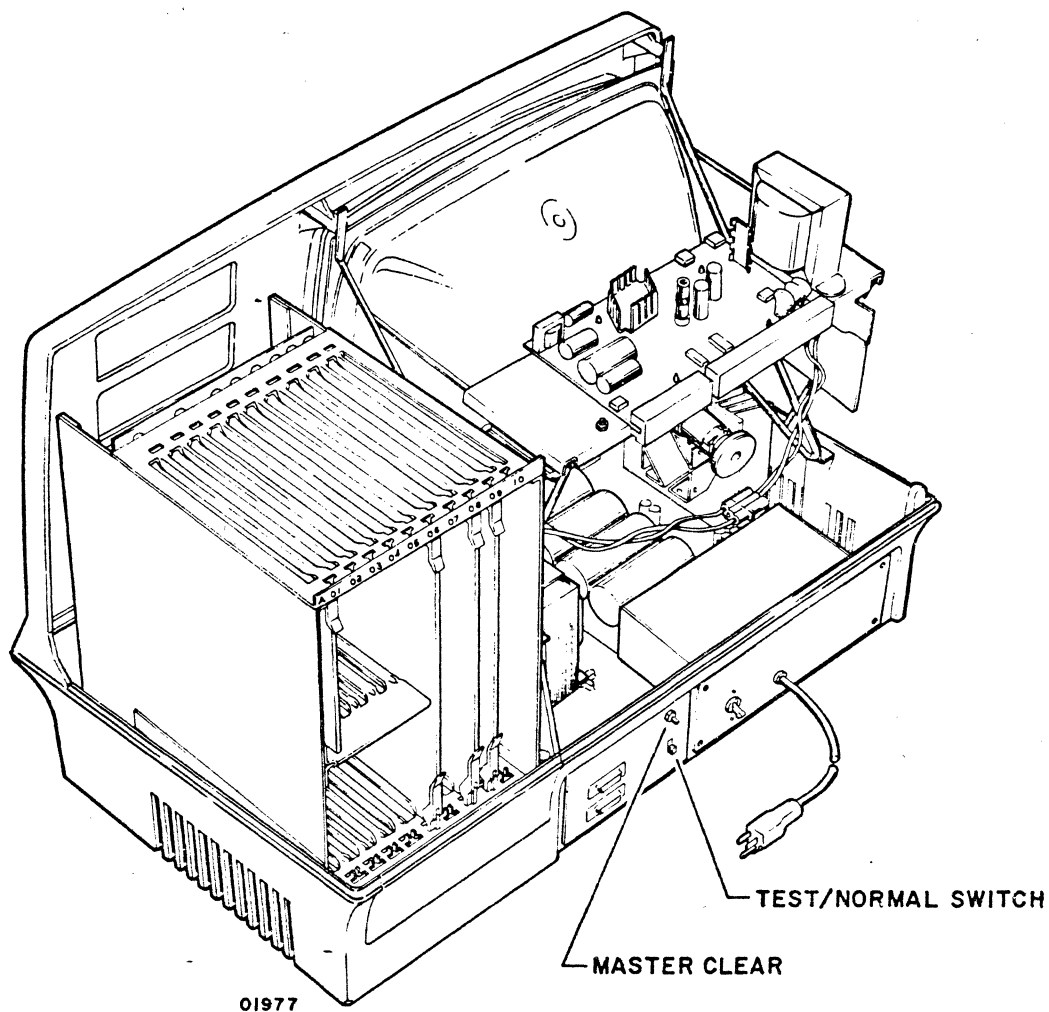

Figure 3-4. TEST/NORMAL and MASTER CLEAR Switches
- 4) Set TEST/NORMAL switch to TEST (up) and press MASTER CLEAR (see figure 3-4). The following display should appear on the screen: